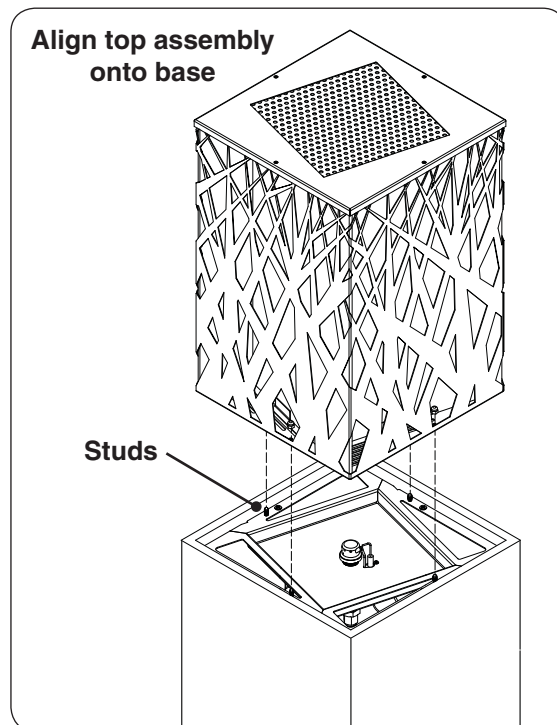

Fig. 23-1 Place top assembly
1. The top assembly is pre-assembled at the factory. **CAREFULLY** place the top assembly onto the lantern base. See Fig. 23-1.